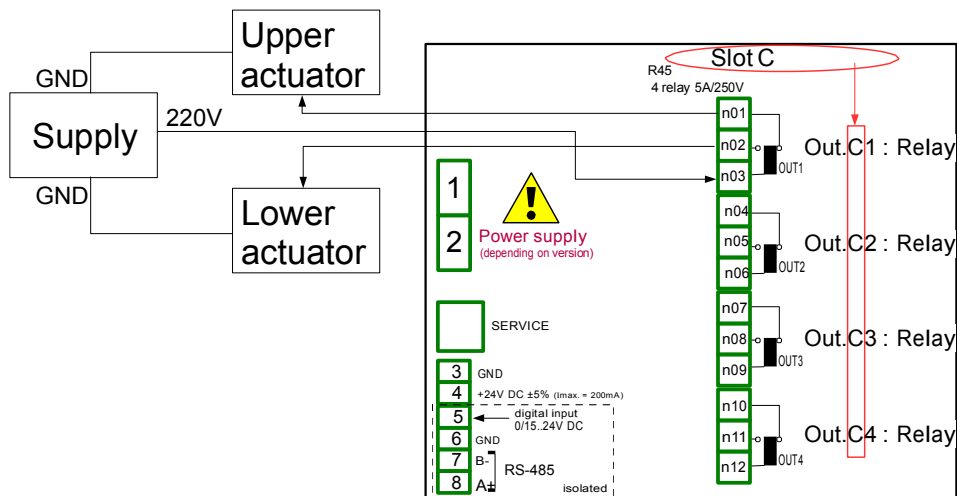

Fig. 7.67. Schematic diagram for the R45 module
Before connecting relay to the device, user should configure the device, and then connect them as it is shown in Fig. 7.67. After setting the configuration of the physical inputs can configure the input channel to read the output value.
- Source parameter set as Out. C1: Relay (see the connection in Fig. 7.67),